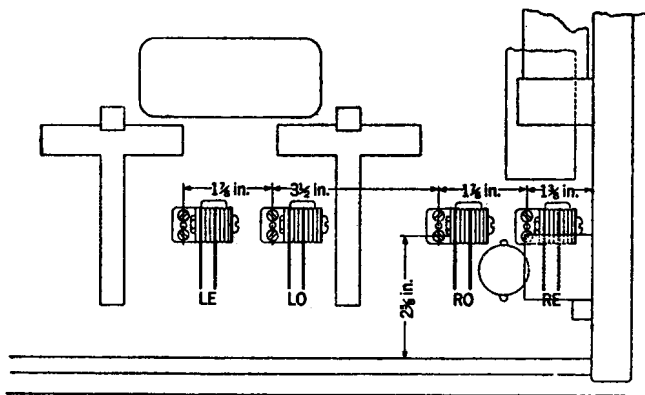

Fig. 6 - Varistors Mounted in No. 2 Order Turret
3.13 Using the mounting bracket as a templet, drill the base of the turret in the right even position and mount the varistors as indicated by Fig. 6. If the turret is equipped with a retardation coil designated AUX, it may have to be moved slightly in order to mount the one varistor in the location indicated by Fig. 6.